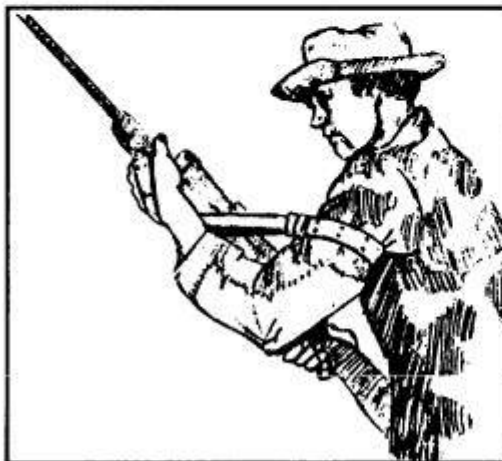

Figure 2-12. Proper placement of the sling.
- (6) The sniper moves his nonfiring hand from the outside of the sling to the inside of the sling between the rifle and the sling. The sniper then grasps the forearm of the weapon, just behind the sling swivel with his nonfiring hand. He forces it outward and away from his body with the nonfiring hand (Figure 2-12).
- (7) The sniper pulls the butt of the weapon into the pocket of his shoulder with the firing hand. He then grasps the weapon at the small of the stock and begins the aiming process.